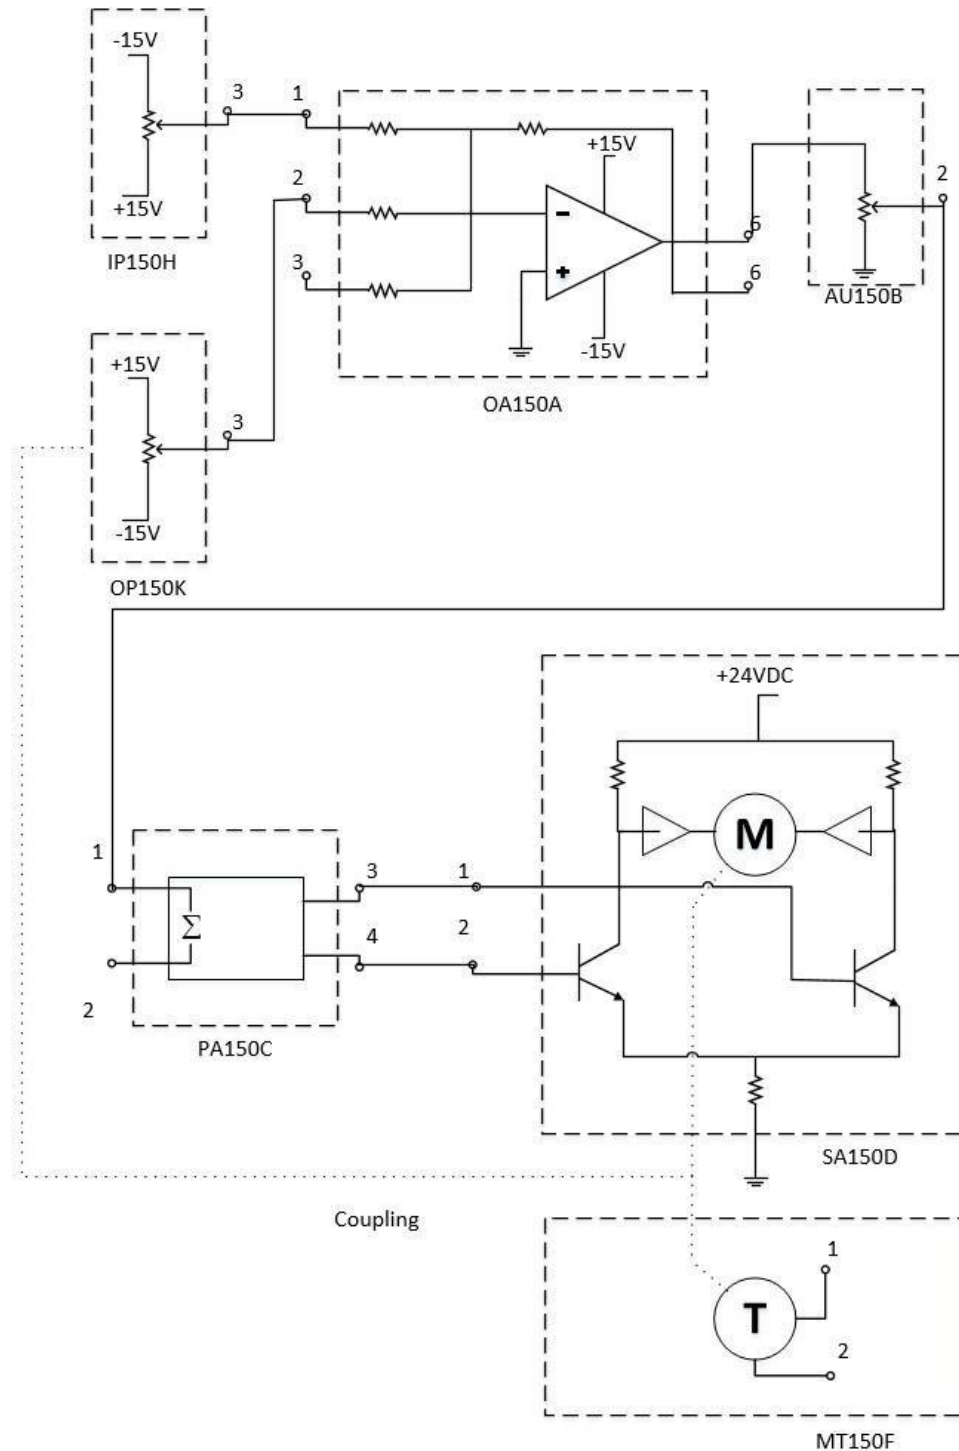

Figure 8 Closed Loop Position Control
1. Set the equipment of MS150 F to be like Figure 8.